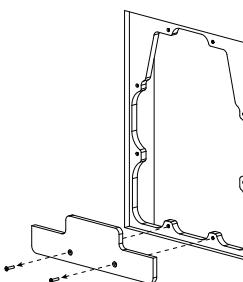

Fig. 5e
- Remove positioning block by removing screws that hold it in place; discard (Fig. 5e).